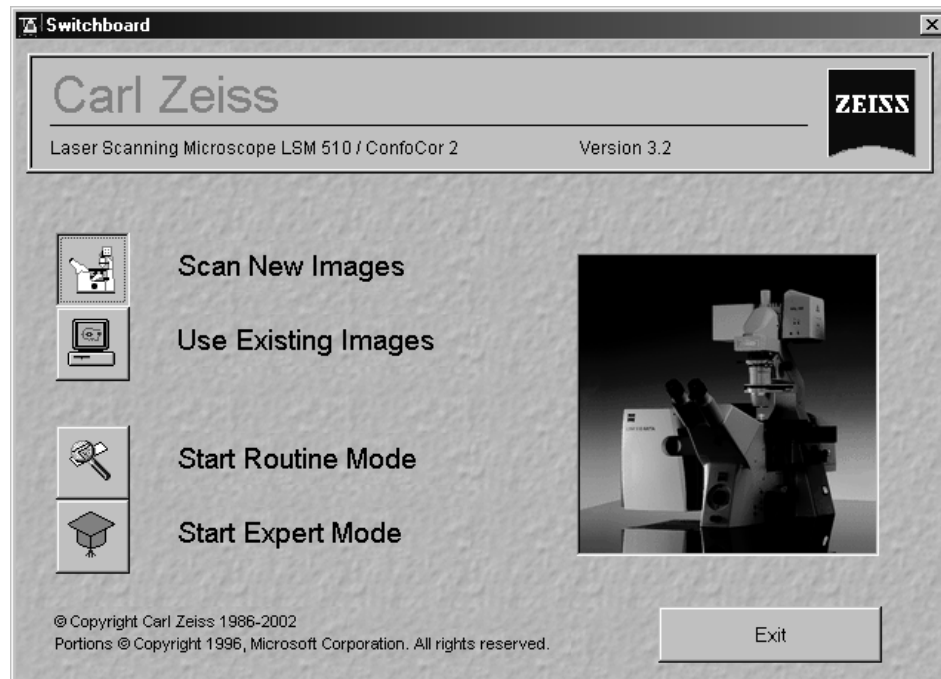

Fig. 5-8 LSM-FCS Switchboard menu
- The **LSM-FCS Switchboard** menu appears on the screen (see Fig. 5-8).